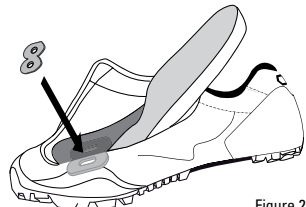

Figure 2
- If necessary, remove the insole of the shoe and install the cleat washer from the inside of the shoe (fig. 2).